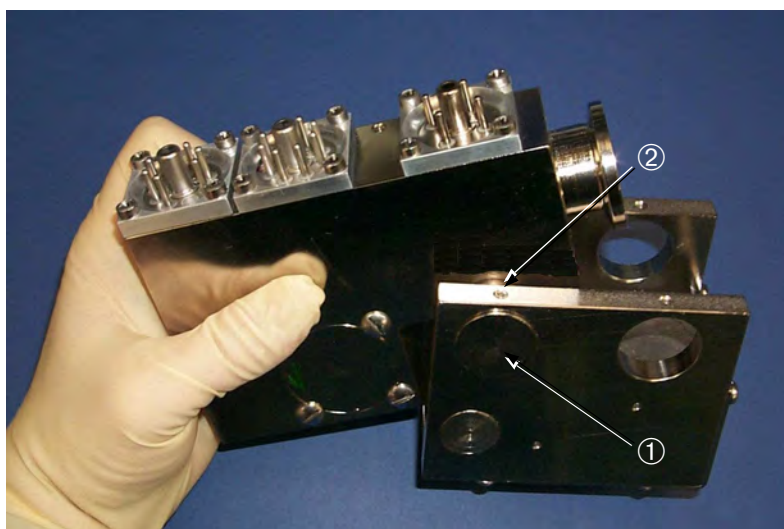

Figure 4-8 Tuning Magnet Set Screws
If the magnet assembly does not slide off easily, it may be necessary to loosen the tuning magnets ① by backing out the set screws ② located on both sides of the assembly (Figure 4-8). Do not remove the set screws and tuning magnets completely.